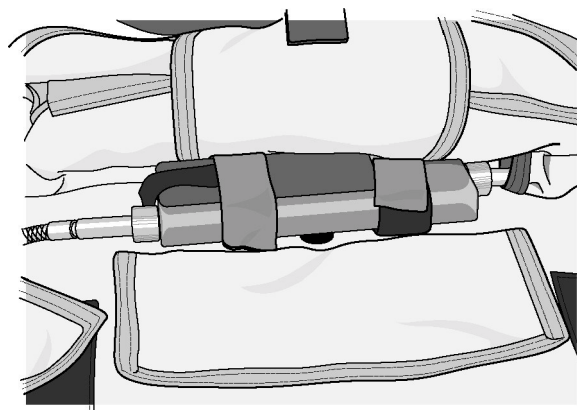

Figure 4. AAD Mounting
d. Remove test power cable. Replace with AAD power cable pin and cable housing. Finger tighten knurled cap. (QA)
a. Position AAD in bottom of parachute compartment and orient power cable to right and arming cable to left (Figure 4).